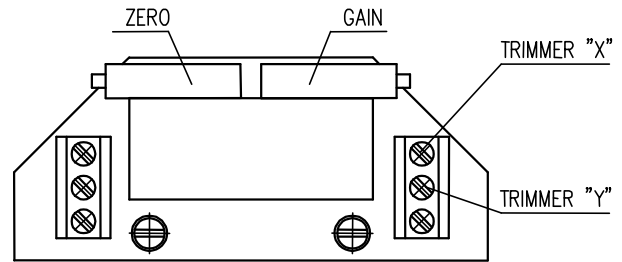

Fig. 6
4.4.2 EPV – 3-wire version (Fig. 6, 6a)
- Adjust the resistive transmitter according to the previous chapter. The resistance is to be metered on the terminals X-Y, resp. 0%-100% (Fig. 6, 6a). The used transmitter resistance is 2000 W or 100 W.